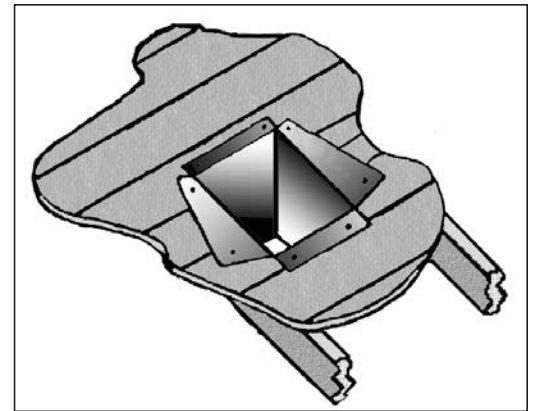

Figure 48: Cathedral Ceiling Support Box Installation.
- Using tin snips, cut the "Support Box" from the top corners down to the roof line, and fold the resulting flaps over the roof sheathing (Figure 48). Before nailing it in to the roof, run a bead of non-hardening mastic around the top edges of the "Support Box", to make a seal between the box and the roof. Clean out any combustible material from the inside of the "Support Box".